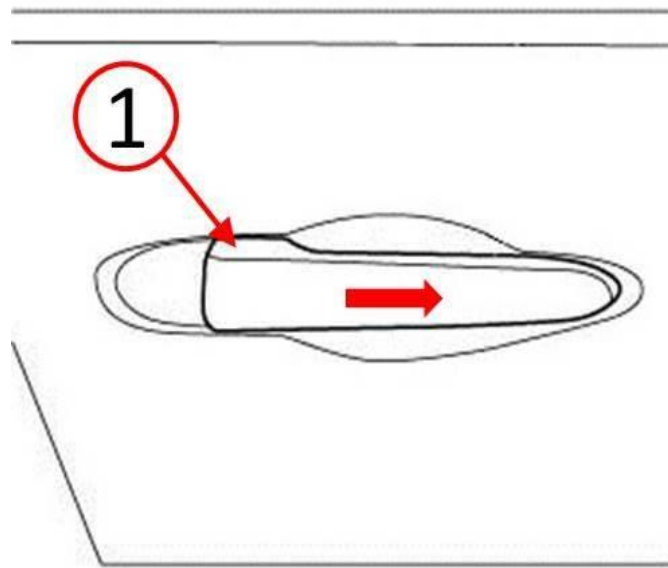

Fig. 10 Slide Door Handle Forward
11. Slide the exterior door handle forward until seated fully (Fig. 10).